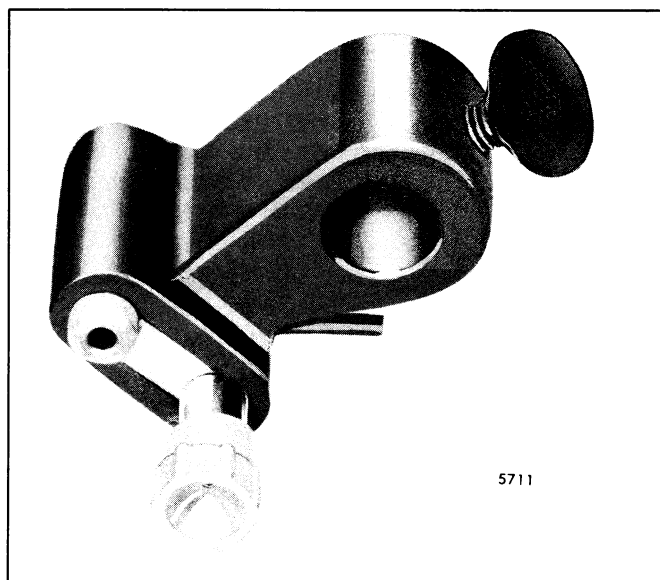

Fig. 1 - Injector Tester J 23010-A Clamping Head (J 23010-169)
1. Select the proper clamping head (Fig. 1). Position it on the clamping post and tighten the thumb screw into the lower detent position (Fig. 2).
5. Mount the injector through the large hole and insert the injector pin in the proper locating pin hole (Fig. 1).